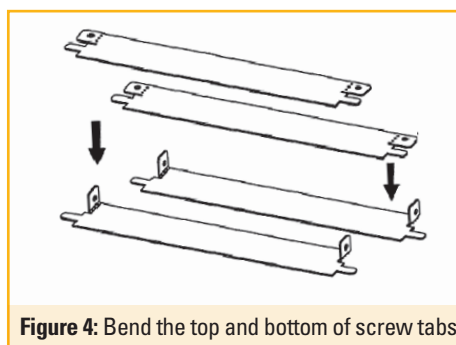

Figure 4: Bend the top and bottom of screw tabs
8. If a double flap door mount, assemble the four-piece tunnel by first bending the screw tabs down as shown in Figure 4 in the top and bottom tunnel pieces (the two identical shorter pieces). **Note:** Only bend the tabs once, bending more than once may result in the tabs breaking off.